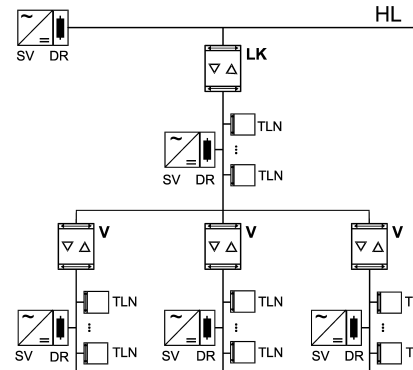

Figure 3: Use as a line coupler (LK) and amplifier (V)
Preparation and repetition of telegrams on a line, no filter function. Division of a line into max. 4 independent line segments => max. 3 line amplifiers connected in parallel per line (FIGURE 3). Each line segment requires a separate power supply (SV) including choke (DR).